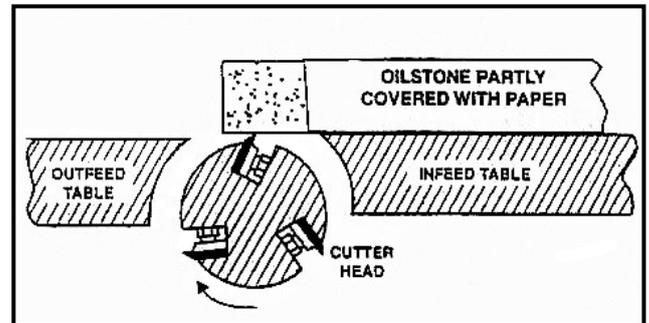

Fig. 15
2. Use a fine carborundum stone. Cover it partly with paper as shown Fig. 15, to avoid marking the table.